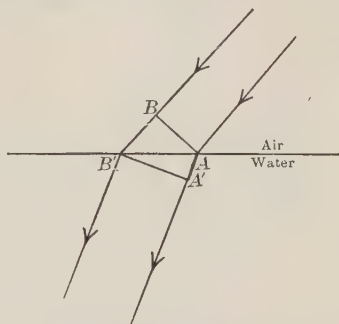

FIGURE 304.—Light travels from  $B$  to  $B'$  in air while it travels only from  $A$  to  $A'$  in water.
**202. Explanation of Refraction.** — Let the wave  $AB$  (Figure 304) fall upon the surface,  $AB'$ , of water.  $A$ , entering the water first, is retarded and passes through the water only  $\frac{3}{4}$  as fast as  $B$  travels in air. For an instant  $B$  gains on  $A$  and the wave-front is turned to  $A'B'$  as a